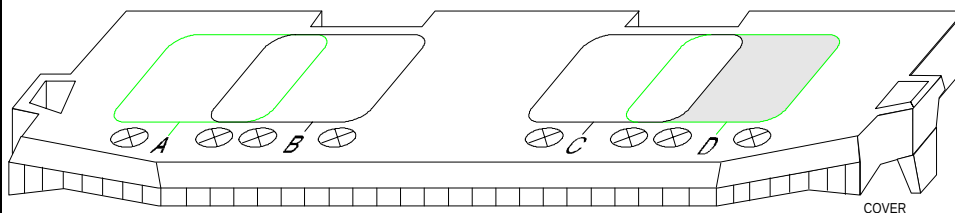

Figure 20: Line Voltage Conduit Entry from the Top of the Enclosure
2. Run 120 VAC line voltage wiring through conduit in area C. See Figure 20.